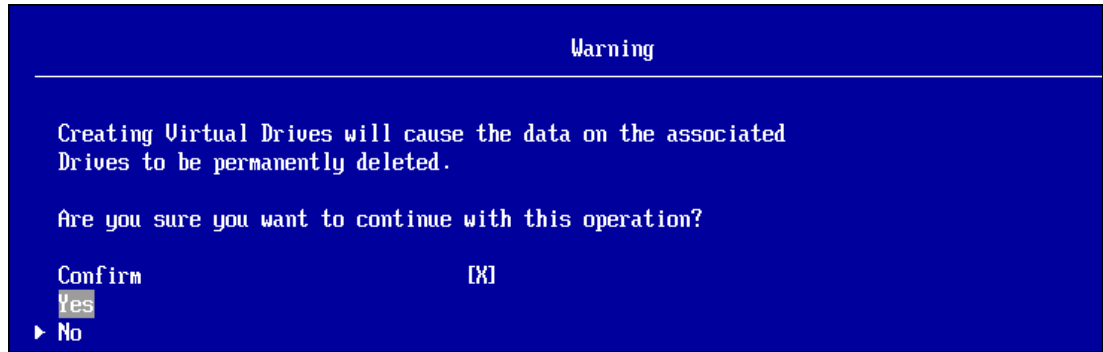

Figure 26 Confirm the settings
8. Select **Yes** to confirm the settings and create the array, as shown in Figure 26 on page 25.